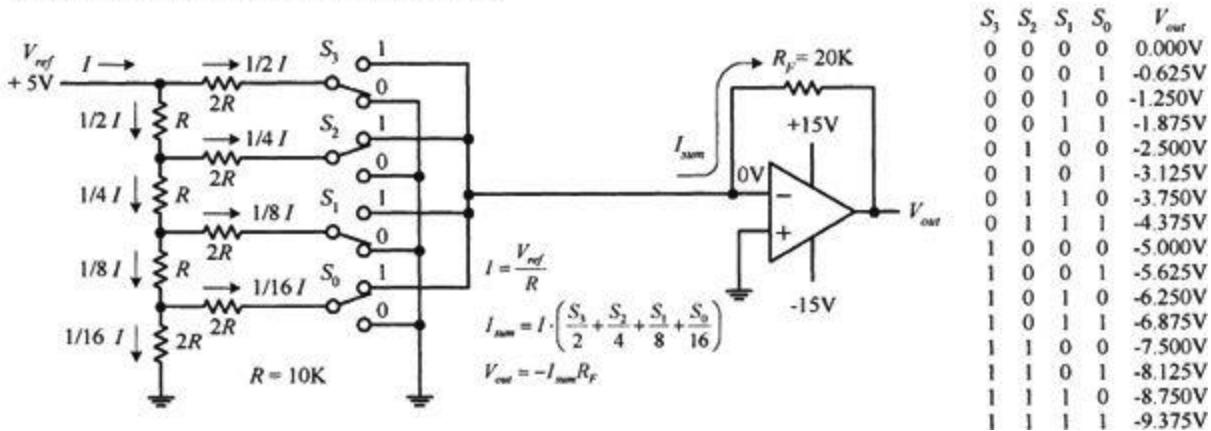
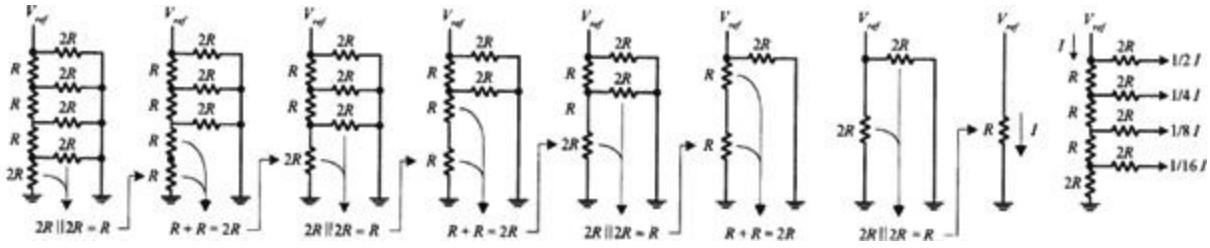

FIGURE 12.142
FIGURE 12.143
An $R/2R$ DAC uses an $R/2R$ resistor ladder network instead of a scaled-resistor network, as was the case in the previous DAC. The benefit of using the $R/2R$ ladder is that we need only two resistor values: R and $2R$. Figure 12.142 shows a simple 4-bit $R/2R$ DAC. For now, assume that the switches are digitally controlled (in real DACs, they are replaced with transistors).
The trick to understanding how the $R/2R$ ladder works is realizing that the current drawn through any one switch is always the same, no matter if it is thrown up or down. If a switch is thrown down, current will flow through the switch into ground (0 V). If a switch is thrown up, current will flow toward virtual ground—located at the op amp's inverting input (recall that if the noninverting input of an op amp is set to 0 V, the op amp will make the inverting input 0 V, via negative feedback). Once you realize that the current through any given switch is always constant, you can figure that the total current (I) supplied by V_{ref} will be constant as well. Once you have that, you figure out what fractions of the total current pass through each of the branches within the $R/2R$ network using simple circuit analysis. Figure 12.142 shows that $\frac{1}{2}I$ passes through S_3 (MSB switch), $\frac{1}{4}I$ through S_2 , $\frac{1}{8}I$ through S_1 and $\frac{1}{16}I$ through S_0 (LSB switch). If you're interested in how that was figured out, the circuit reduction shown in Fig. 12.143 should help.
Now that we have a means of consistently generating fractions of $\frac{1}{2}I$, $\frac{1}{4}I$, $\frac{1}{8}I$, and $\frac{1}{16}I$, we can choose, via the digital input switches, which fractions are summed together by the amplifier. For example, if switches S_3 , S_2 , S_1 , and S_0 are thrown to 0101 (5), $\frac{1}{4}I + \frac{1}{16}I$ combine to form I_{sum} . But what is I ? Using Ohm's law, it's just $I = V_{\text{ref}} / R = +5 \text{ V} / 10 \text{ k}\Omega = 500 \mu\text{A}$. This means that $I_{\text{sum}} = \frac{1}{4}(500 \mu\text{A}) + \frac{1}{16}(500 \mu\text{A}) = 156.25 \mu\text{A}$. The final output voltage is determined by $V_{\text{out}} = -I_{\text{sum}}R_F = - (156.25 \mu\text{A})(20 \text{ k}\Omega) = -3.125 \text{ V}$. The formulas and the table in Fig. 12.142 show the other possible binary/analog combinations.